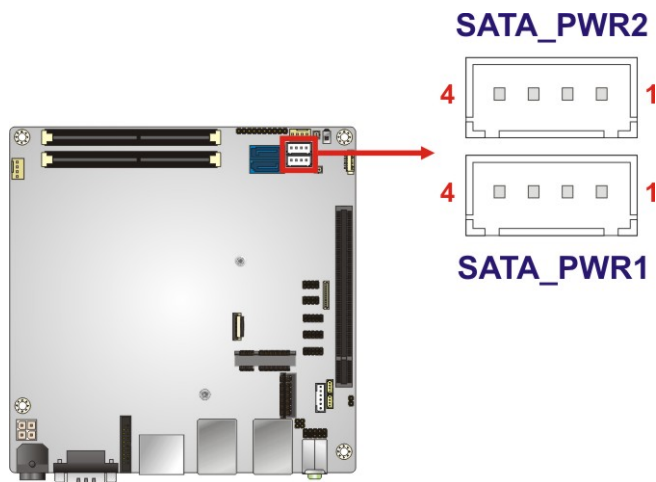

Figure 3-23: SATA Power Connector Locations
- CN Location: See **Figure 3-23**